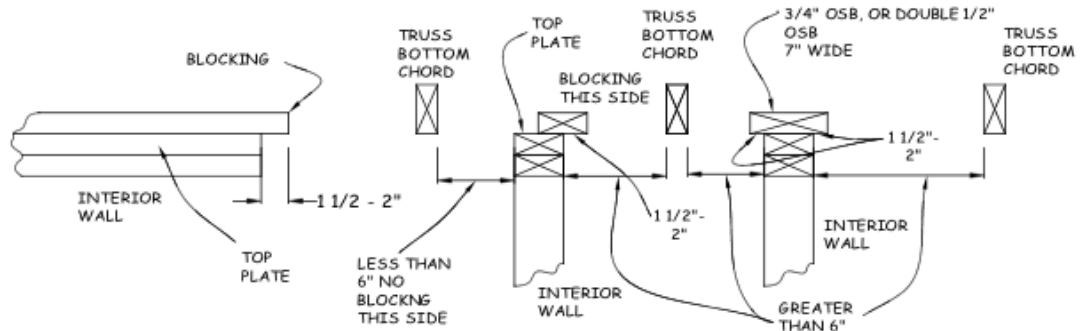

Figure 10-3. Blocking For Ceiling Rock.
2. Inspect the tops of all walls for areas where blocking may be needed for ceiling rock (see Figure 10-3). For interior walls that are greater than 6" from a truss, make sure that blocking extends at least 1½"-2" beyond both ends and sides of any interior wall top plates. Blocking should be continuous at the top of each wall where required.